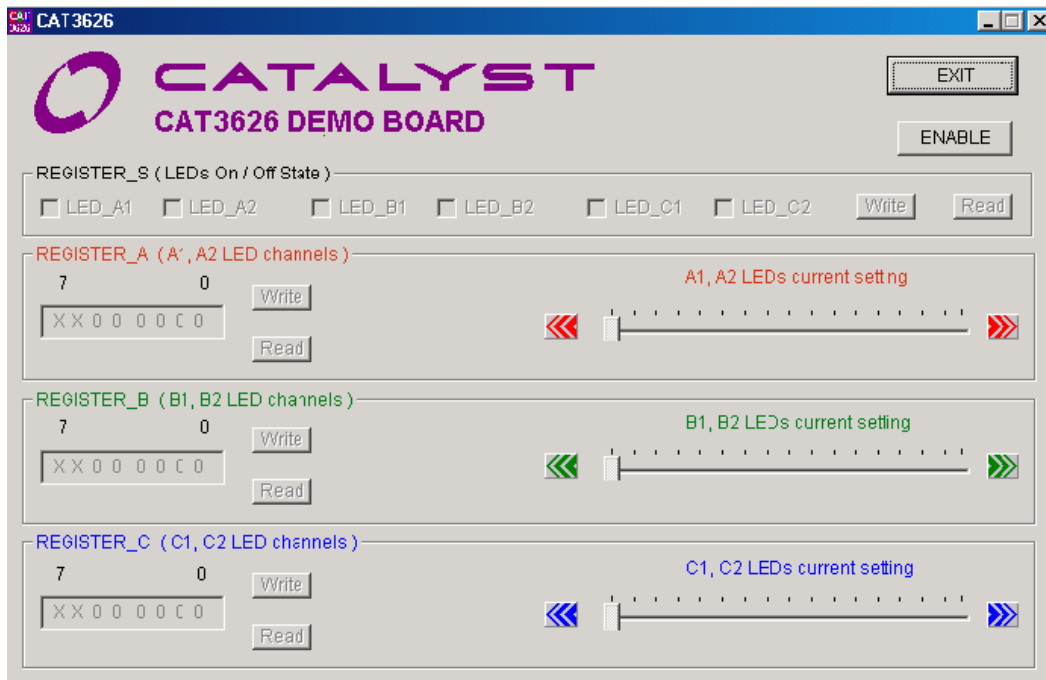

Figure 3. CAT3626DB1 Software Interface Window (Start Window)
5. The CAT3626 Demo Board user interface window opens (Figure 3).